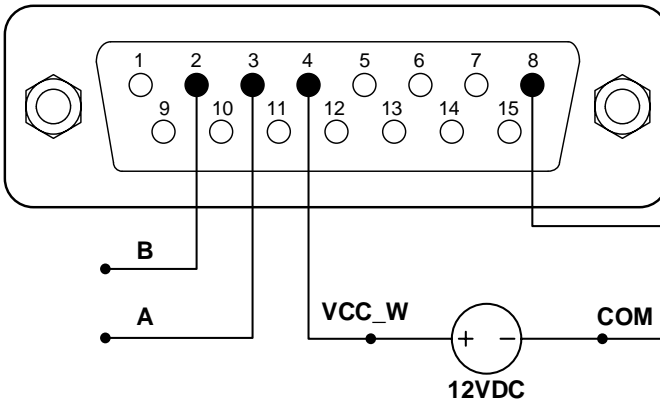

Figure 53. RS485 MODBUS Wiring
- 1) Power pump off. Wire the DB15 connector as shown on Figure 53 and connect it to the DB15 port on the rear of the pump. External DC power source is recommend to avoid electrical interference.